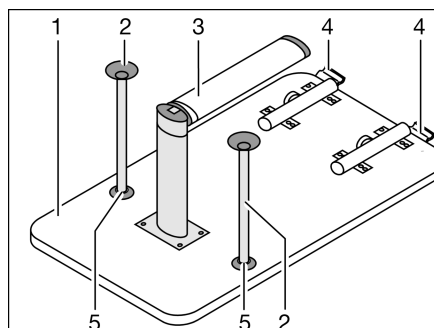

Fig. 93 Bed foundation
- Lift the front of the table-top (Fig. 93,1) by approx. 45°.
- Fold the lower part of the fold-out leg (Fig. 93,3) by 90°. Depending on the model, pull the lower part of the fold-out leg down or push the release knob.
- Press the release knob on the lock (Fig. 93,4).
- Depending on the model, insert both additional support legs (Fig. 93,2) into the holders (Fig. 93,5) on the bottom side of the table.